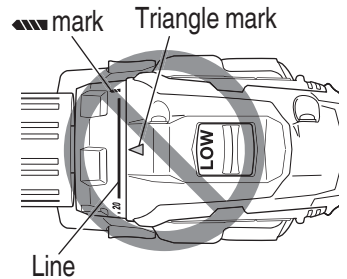

Fig. 13
- Do not use with the clutch dial set at the line between the number "20" and the drill mark "▲". Doing so may cause damage (See Fig. 13).